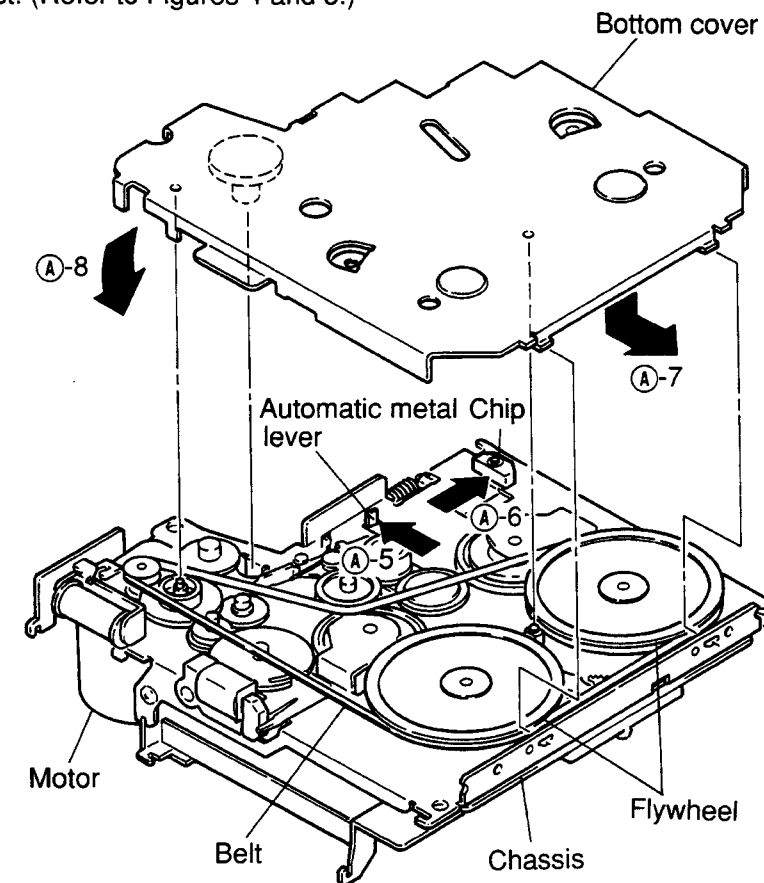

Figure 3
- (9) Turn the mechanism around as shown in Figure 3.
- (10) Pull the automatic metal lever in the direction A-5 and the RF solenoid chip in the direction A-6 as shown in Figure 3.
- (11) Insert the hooks of the bottom cover into the chassis in the direction A-7, and then join the part A-8 of the bottom cover to the chassis slowly, making sure that the 3 points indicated with the straight lines in the Figure 3 are fitted properly.
If there are troubles in mounting the bottom cover, do not apply force but remove the bottom cover once again and check the positions of the individual parts. (Refer to Figure 3.)